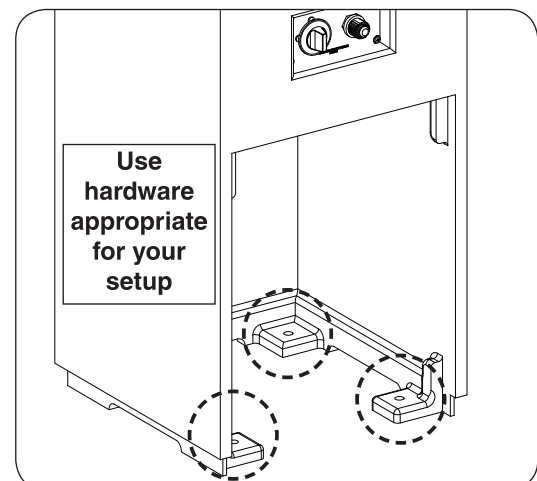

Fig. 19-3 Mount base to floor
2. Using appropriate mounting hardware for the floor material/construction, secure the lantern base into the floor. The interior of the base has four $1\frac{1}{2}$ " holes that will allow for the base to be fastened to the floor. See Fig. 19-3.